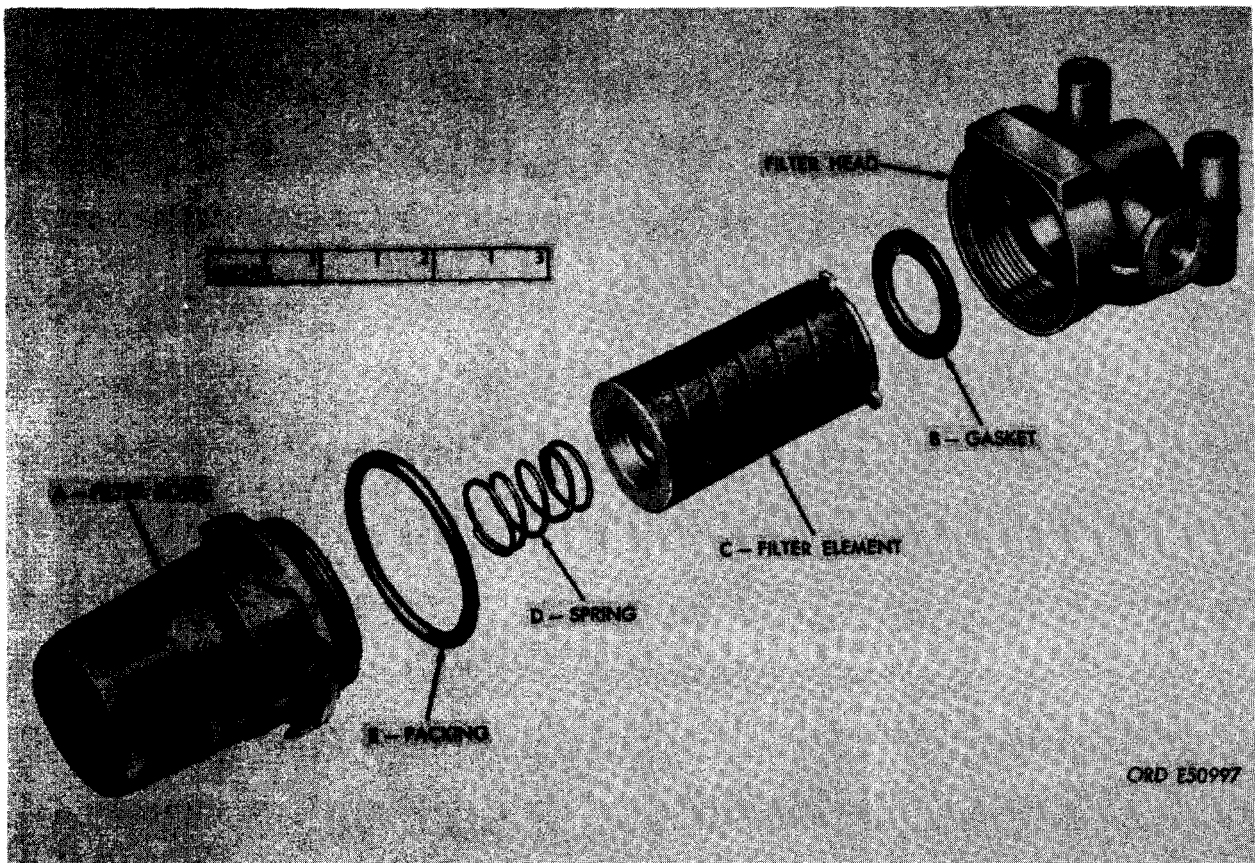

FIGURE 142. FLAME HEATER FUEL FILTER - EXPLODED VIEW.
- (2) Figure 142. (A) Remove filter bowl from filter head. (B) Remove gasket from filter element. (C) Remove filter element assembly from filter bowl. (D) Remove spring from filter element. (E) Remove and discard 1-19/64 id x 7/64 thk preformed packing from filter bowl.
c. Assembly. Refer to figure 142 and reverse the sequence of instructions to assemble the flame heater fuel filter. Use a new preformed packing.